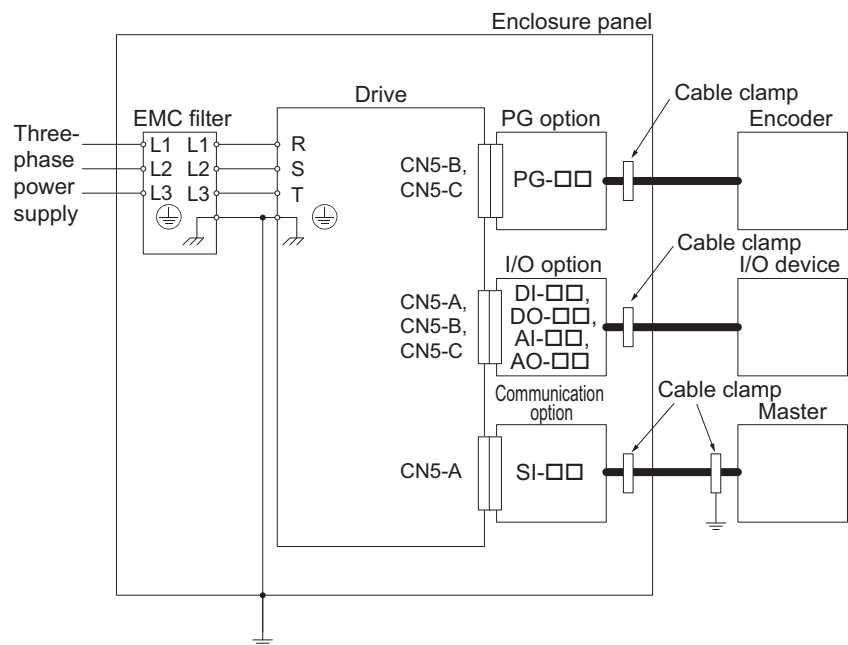

Figure 26 Option Installation for CE Compliance (PG-□□, DI-□□, DO-□□, AI-□□, AO-□□, SI-□□)
2. Keep wiring as short as possible and ground the largest possible surface area of the shield to the metal panel according to Figure 26.